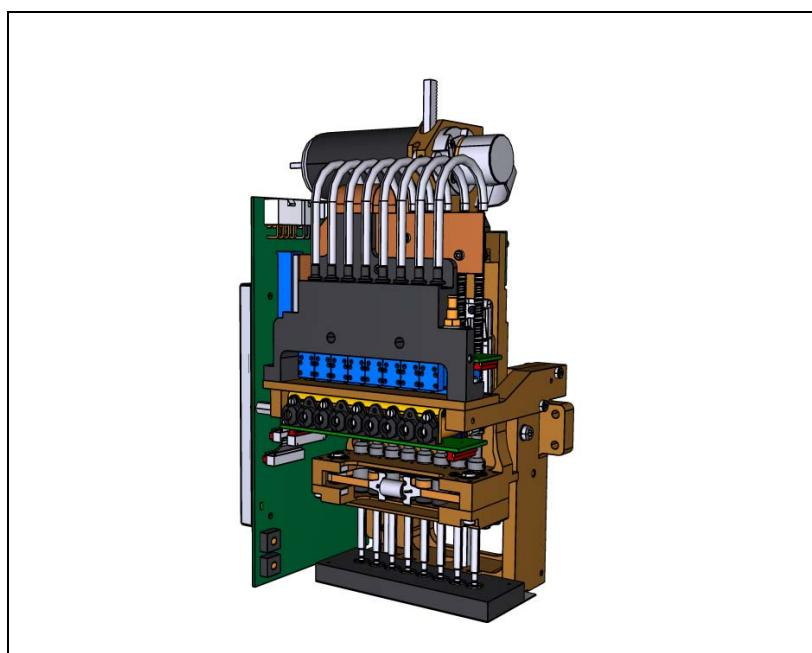

Figure 6-3. HYDRA unit.
The MY100 series of machines are equipped with the following three types of mount heads. There are two different versions of the Midas mount head, Midas and Midas II (see Figure 6-1 and 6-2). There is also the HYDRA unit, which is a multiple mount head with eight mount tools (See Figure 6-3). Descriptions of these mount heads can be found in this Chapter.
- HYDRA Mount Head on page 6-14. The HYDRA unit is a multiple mount head with eight mount tools (See Figure 6-3).